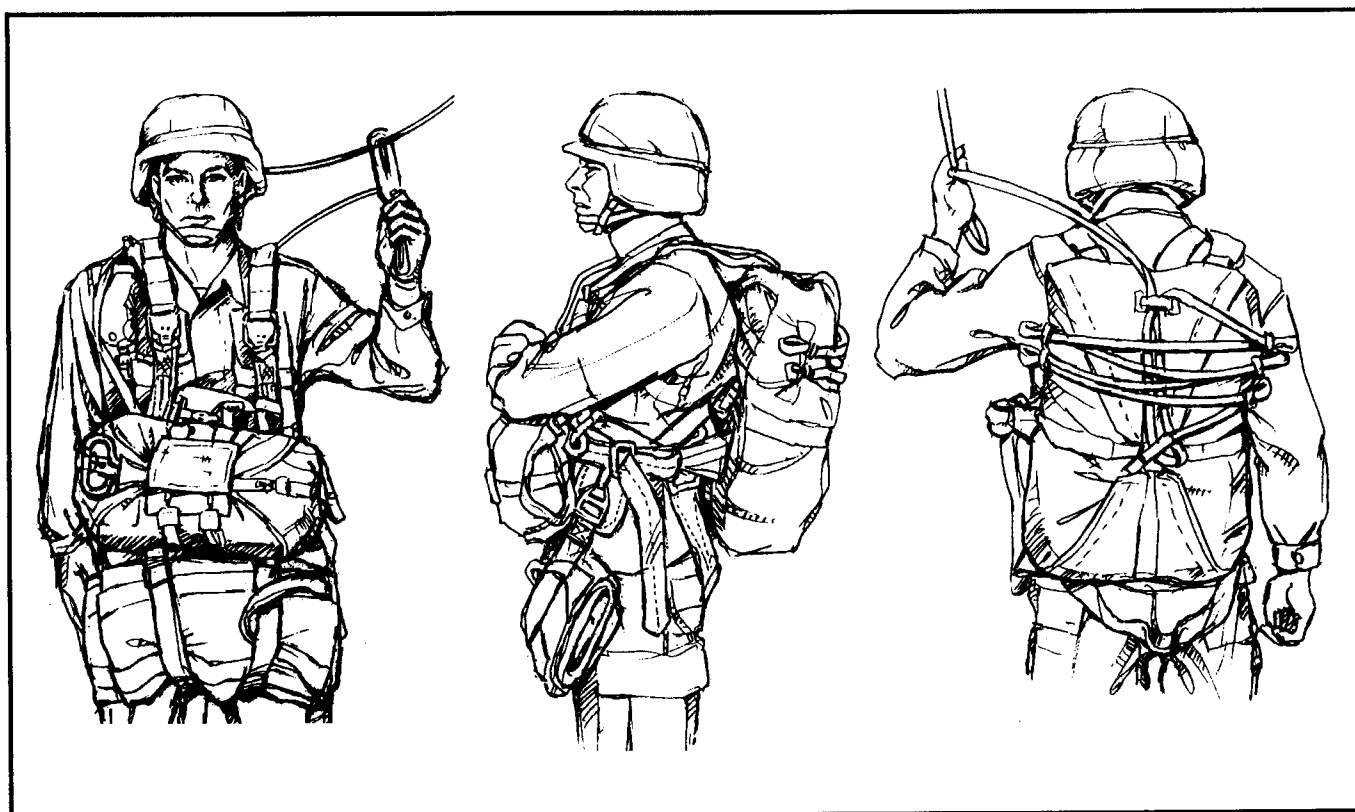

Figure 2-6. Troop parachute harness fitted.
(2) Lifts the pull-the-dot fasteners on the diagonal back strap retainer and frees the diagonal back straps from the sizing channel.
(3) Sizes the parachute to one of the six sizing channels (S, 1, 2, 3, 4, and L).
(4) Rechannels the diagonal back strap retainer and fastens the pull-the-dot fastener.
(5) Lets out about half of the slack in the horizontal back strap, leg straps, and chest strap; straightens the leg straps and chest strap; and folds the kit bag, leaving the outermost carrying handle extended.
STEP6: Number 2 locates the free-running ends of the horizontal back strap and tightens the harness until number 1 indicates it fits snugly and comfortably. The horizontal back strap is the main point of adjustment for the harness. After final adjustment, number 1 should be able to stand fully erect without straining (Figure 2-6).